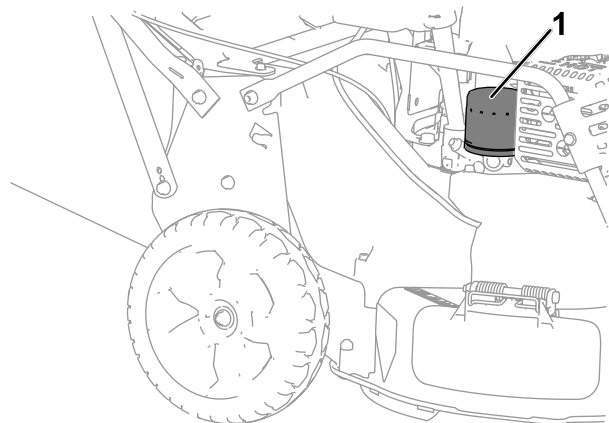

Figure 28
6. Remove the oil filter (Figure 28).